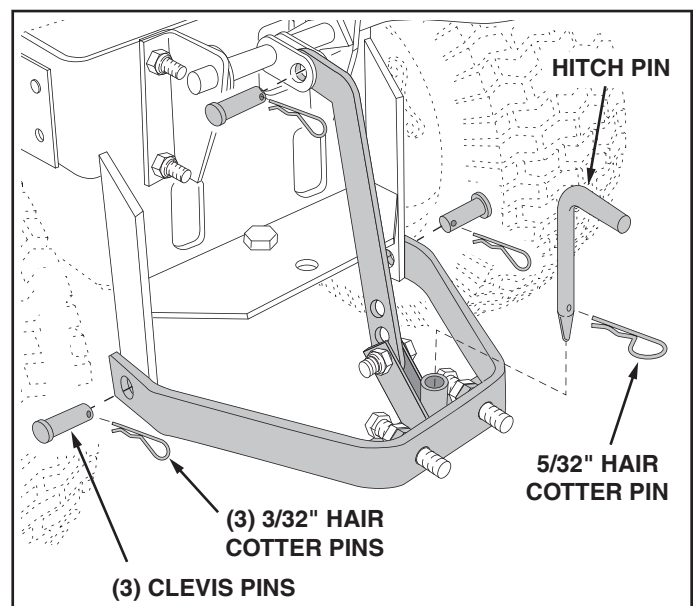

FIGURE 6
- Attach the Sleeve Hitch Lift Assembly to the Sleeve Hitch Frame Assembly using three 5/8" x 1-3/4" clevis pins and 3/32" hair cotter pins as shown in figure 6.
- Install the hitch pin in the sleeve hitch and secure it with the 5/32" hair cotter pin. See figure 6.